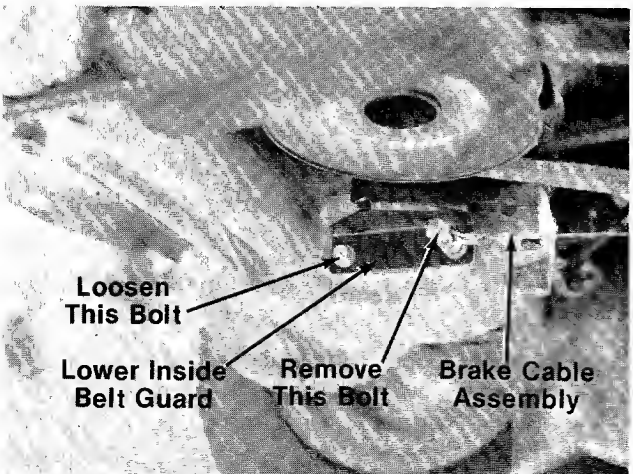

FIGURE 30.
8. Remove the hex bolt at the lower inside belt guard (at transaxle) which holds the brake cable assembly. See figure 30. A 3/8" wrench is required.
9. Loosen the second bolt (**do not remove**), then pivot the guard upward, and slip the deck belt off the engine pulley. See figures 30 and 31.